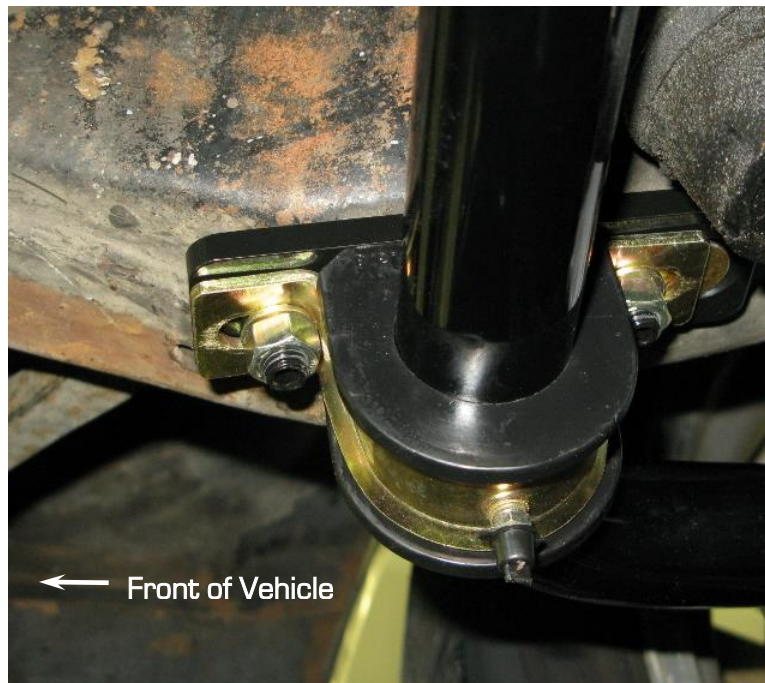

Figure 3 - Install Sway Bar (1964-67 A-Body)
5. Position the sway bar against the adapter plates so the brackets go over the studs. Thread the 3/8"-16 Nylock Nuts onto the stud along with an AN washer. Do not tighten at this time. See Figure 3.